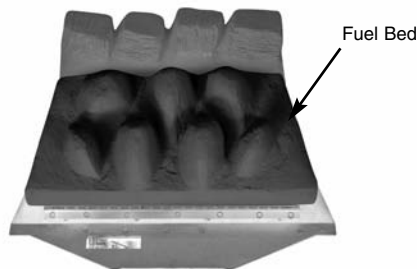

Fig. 82
2. Place the main fuel bed on to the middle section of the metal burner tray. It is important that the front edge of the fuel bed is located behind the burner strip (Fig. 82).